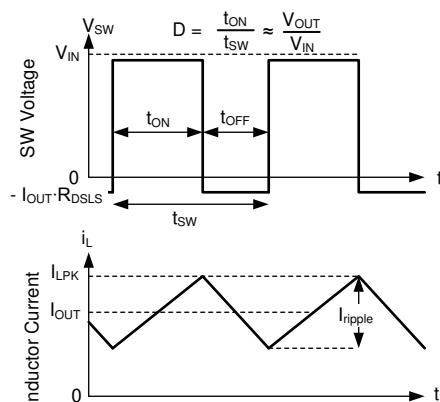

図 7-15. SW Voltage and Inductor Current Waveforms in Continuous Conduction Mode (CCM)
The following operating description of the LMR436x0-Q1 refers to セクション 7.2 and to the waveforms in 図 7-15. In CCM, the LMR436x0-Q1 supplies a regulated output voltage by turning on the internal high-side (HS) and low-side (LS) switches with varying duty cycle (D). During the HS switch on time, the SW pin voltage, V_{SW} , swings up to approximately V_{IN} , and the inductor current, i_L , increases with a linear slope. The HS switch is turned off by the control logic. During the HS switch off time, t_{OFF} , the LS switch is turned on. Inductor current discharges through the LS switch, which forces the V_{SW} to swing below ground by the voltage drop across the LS switch. The converter loop adjusts the duty cycle to maintain a constant output voltage. D is defined by the on time of the HS switch over the switching period: